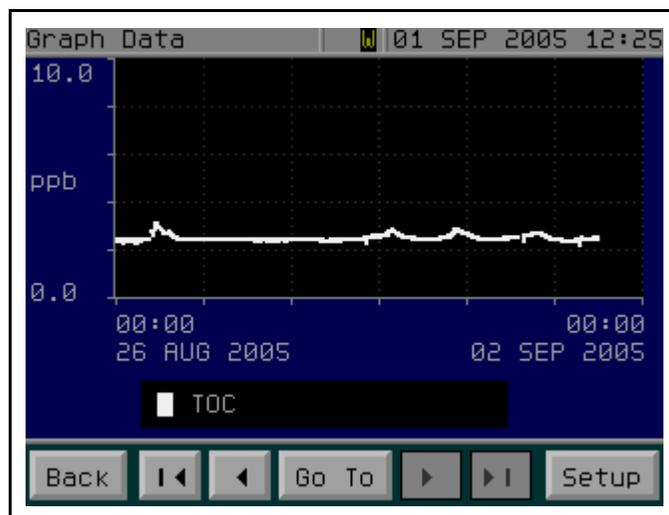

Figure 14: Graphing the Data History
2. Press the **Graph** button to display the data graph (see Figure 14).